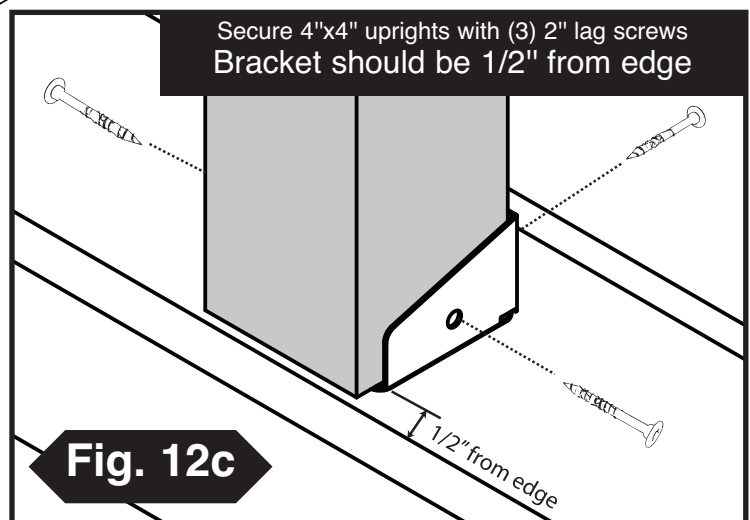

Fig. 12c
2. Install (3) 4" x 4"s as shown in (Fig. 12b) and (Fig. 12c).